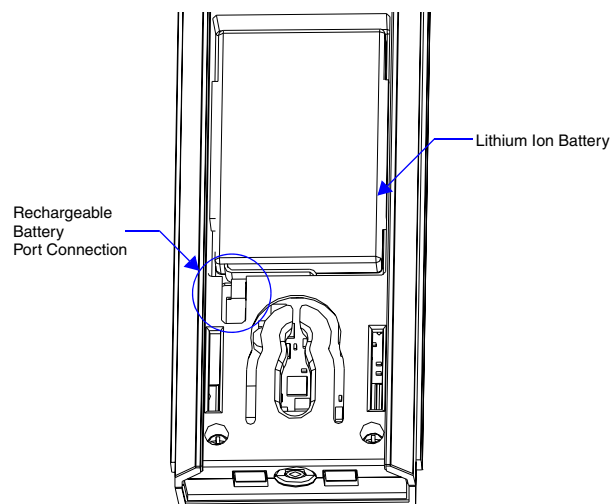

FIG. 8 Rechargeable Battery Port on The Mio Remote
6. Place the new housing on the device so that the rechargeable battery port connection is now accessible. See FIG. 8.
8. Connect the terminal end of the Lithium-Ion battery to the port shown in FIG. 8. It may be necessary to use a thin, blunt object to fully seat the battery connector within its port.